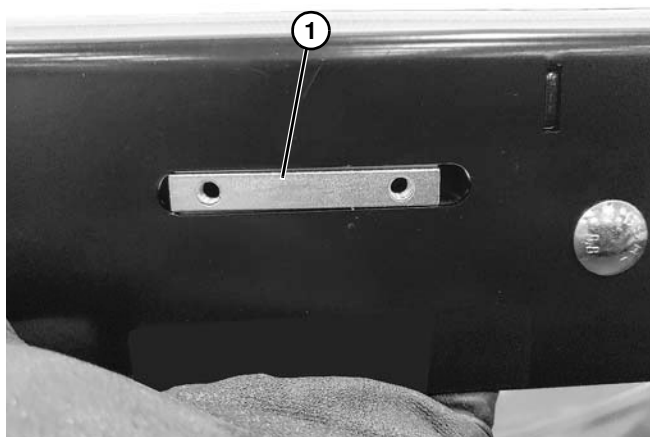
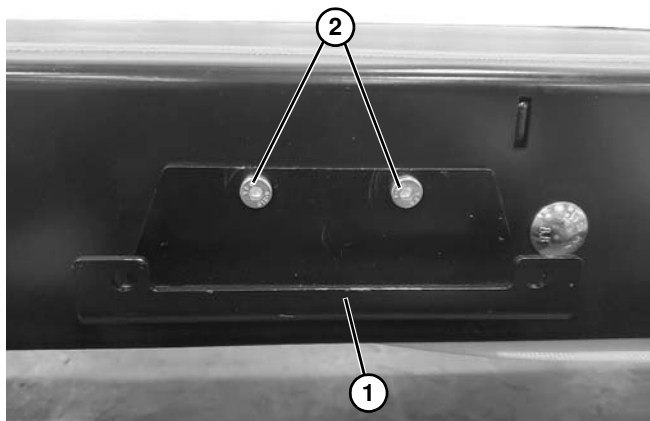
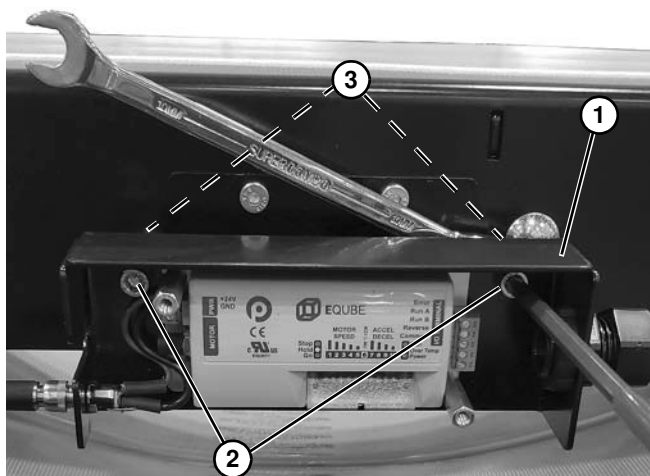

Figure 19
Figure 20
Figure 21
3. Install tee bar (**Figure 19, item 1**), and secure mounting bracket (**Figure 20, item 1**) with two screws (**Figure 20, item 2**).
4. Secure controller assembly (**Figure 21, item 1**) onto mounting bracket (**Figure 20, item 1**) with two screws (**Figure 21, item 2**) and nuts (**Figure 21, item 3**).